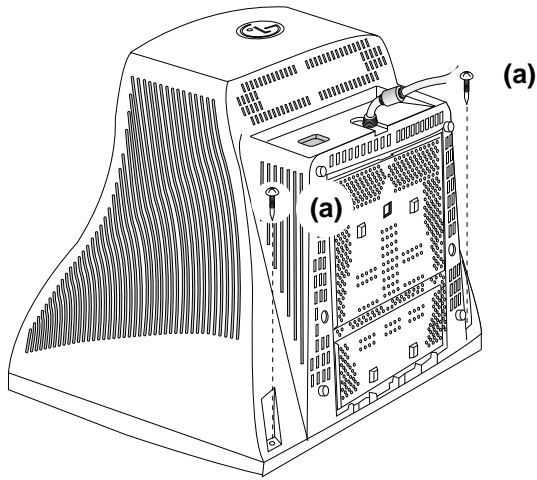

Figure. 1
- 4) Pressing the latch (b), Back cover by pushing it upward. (See Figure. 1)
- Install the cable for adjustment such as Figure 1 and run the alignment program on the DOS for IBM compatible PC.